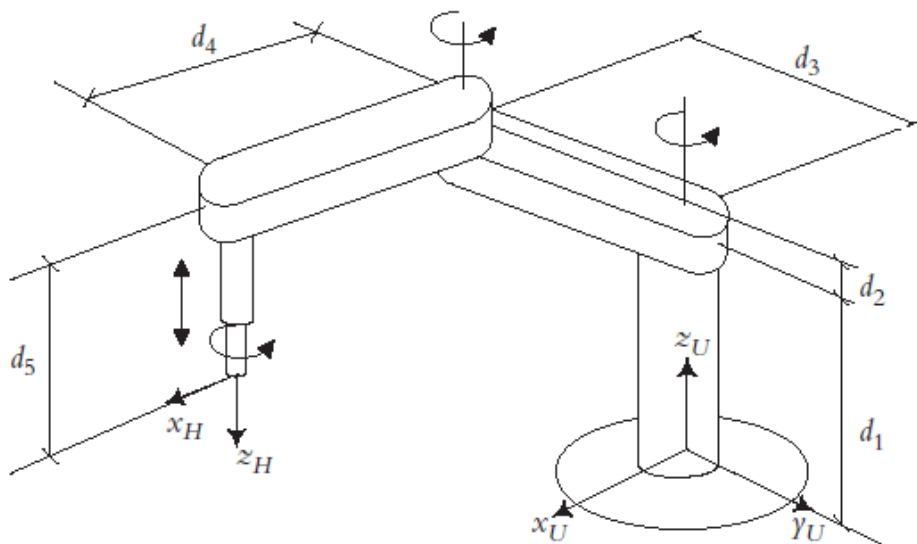

Figure 1
- Figure 1 shows a schematic of a SCARA robot consisting of 3 revolute joints and one prismatic joint.
Based on the robot shown in Figure 1, answer the following questions: